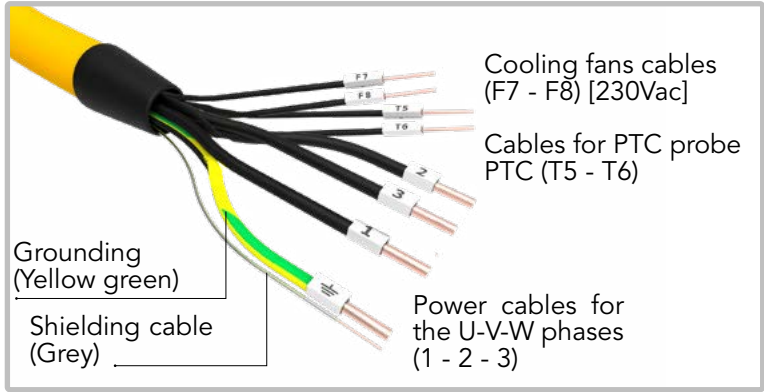

Fig. 11
- Cable for the power supply of the motor [1 - 2 - 3, Ground, SC] (Fig. 11), for the power supply of the cooling fan (230 Vac) [F7-F8] and of the PTC [T5-T6] (Fig. 11).